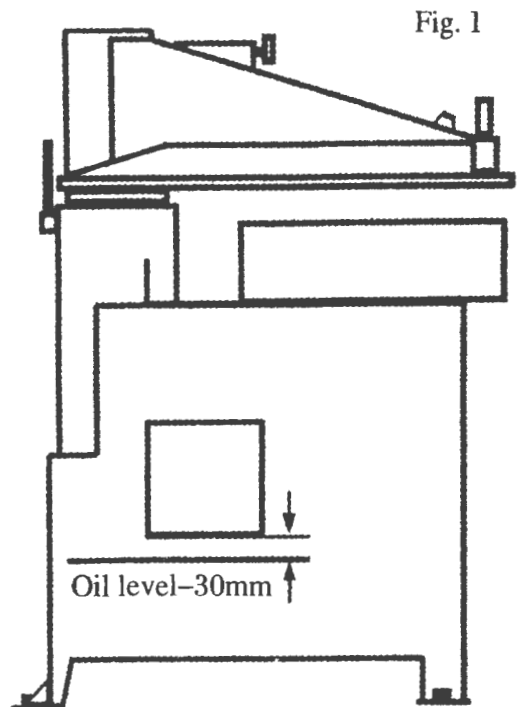

Fig. 1
- 2) Remove the three bolts which attach the press feet to the pallet (Fig. 1) .
- 3) Raise the press by hooking up to the eyebolts (Fig 1) , remove the pallet and place the press on a fork lift to transport it to its final position.
The oil tank is filled through the opening on the left hand side of the press (Fig. 1) after removal of the protection shield. Pour the hydraulic oil into the tank till it reaches a level of about 3 centimetres under the lip of the opening.